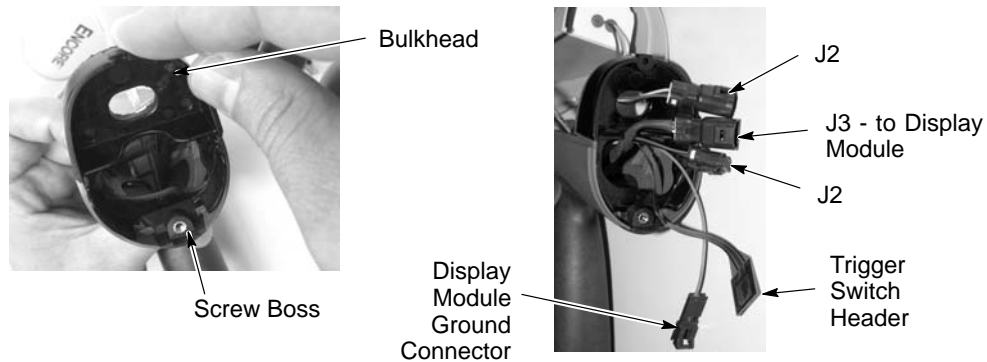

Figure 11 Assembling Bulkhead and Routing Cables
23. See Figure 11. Position the lower edge of the bulkhead (8) behind the screw boss in the rear of the handle assembly and rotate the top of the bulkhead forward until it snaps into place on the handle and gun body.
24. Feed the power supply J2 connector through the top opening in the bulkhead (8).